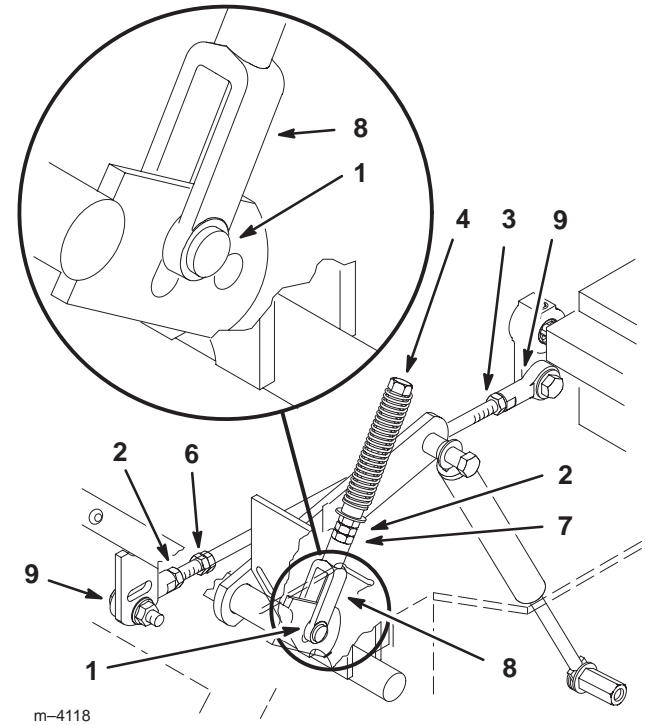

Figure 47
6. Pull lever back until the clevis pin (on arm below pivot shaft) contacts the end of the slot (just beginning to put pressure on the spring) (Fig. 47).
10. Tighten the nut and jam nut (Fig. 47).
8. If adjustment is needed, loosen the nut and jam nut against the yoke (Fig. 47).
1. Loosen the locknuts at the ball joints on pump control rod (Fig. 47).
3. Adjust pump rod length by rotating double nuts on rod, in the appropriate direction, until wheel is still or slightly creeps in reverse (Fig. 47).
- Tighten the nuts at the ball joints (Fig. 47).